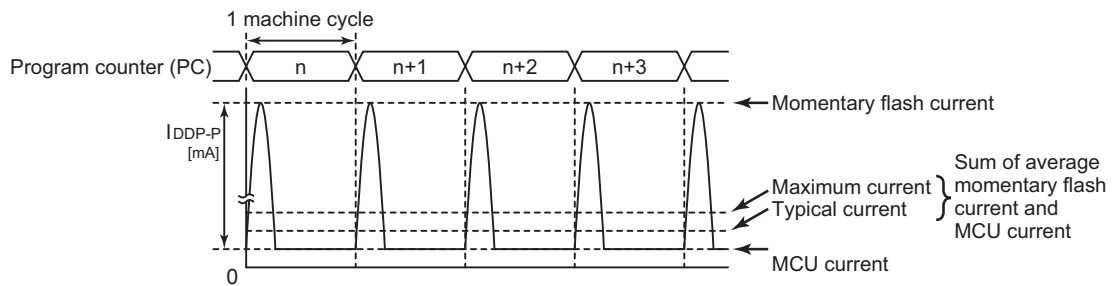

Figure 24-4 Intermittent Operation of Flash Memory
- Note 7: When a program operates in the flash memory or when data is being read from the flash memory, the flash memory operates intermittently, and a peak current flows, as shown in Figure 24-4. In this case, the supply current  $I_{DD}$  (in NORMAL1, NORMAL2 and SLOW1 modes) is defined as the sum of the average peak current and MCU current.